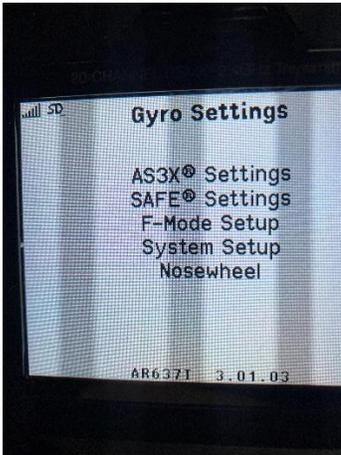

Figure 25.0 Gyro Settings
2. Highlight Gyro Settings and click it. Figure 25.0 shows this new screen.